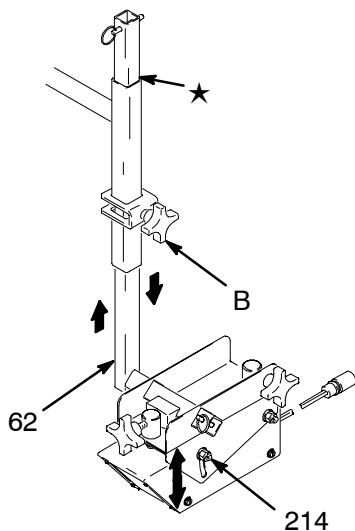

Fig. 8
2. See Fig. 8. Loosen nut (214) and clamp (B), and set camera height and tilt-angle to include pointer chain (24) and natural horizon in video monitor screen. Tighten nut and clamp.
2. When the pointer is properly aligned, mark all extension points with a permanent marker for future reference. Extension points are marked with a star (★) in Fig. 6 and Fig. 8.